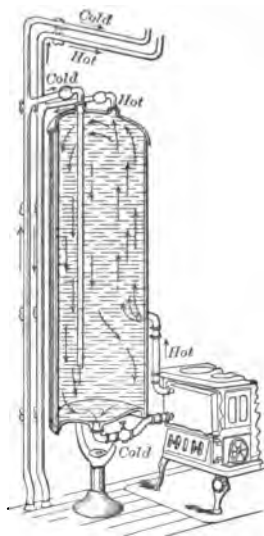

FIG. 161.— Hot-water heater.
**182. Hot-water heating.** The arrangement for heating water in the kitchen range for general use in laundry and bathroom is shown in figure 161. The cold water enters the tank through a pipe which reaches nearly to the bottom. From the bottom of the tank the water is led to a heating coil along the side of the fire box in the range. When the water becomes hot, it is pushed up and goes back into the